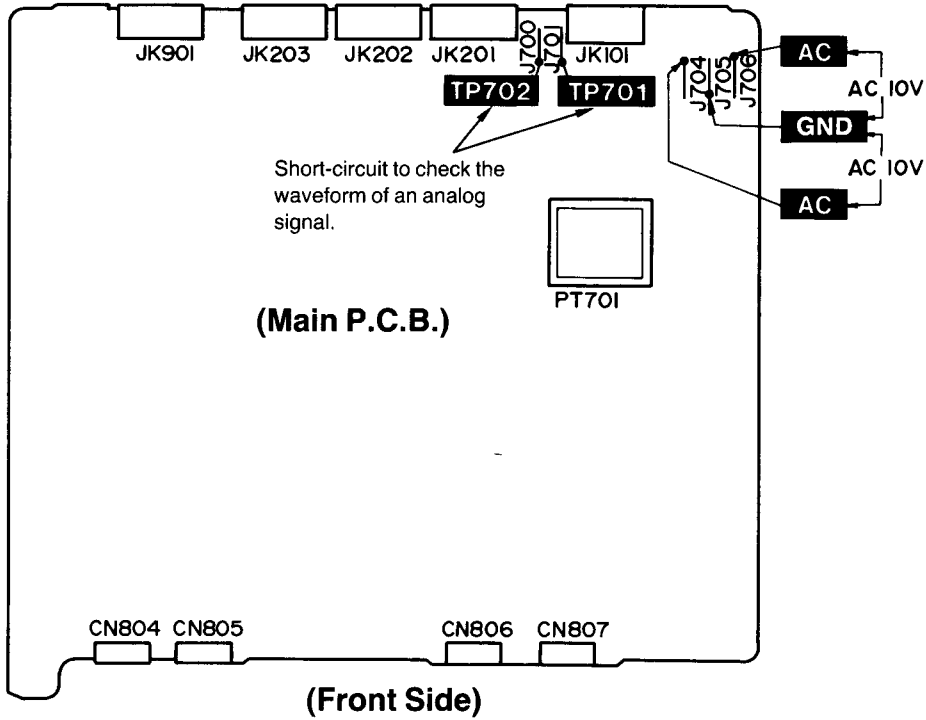

Fig. 1
•Apply AC 10 V between AC (J704)– GND (J705)– AC (J706). (Shown in Fig. 1)